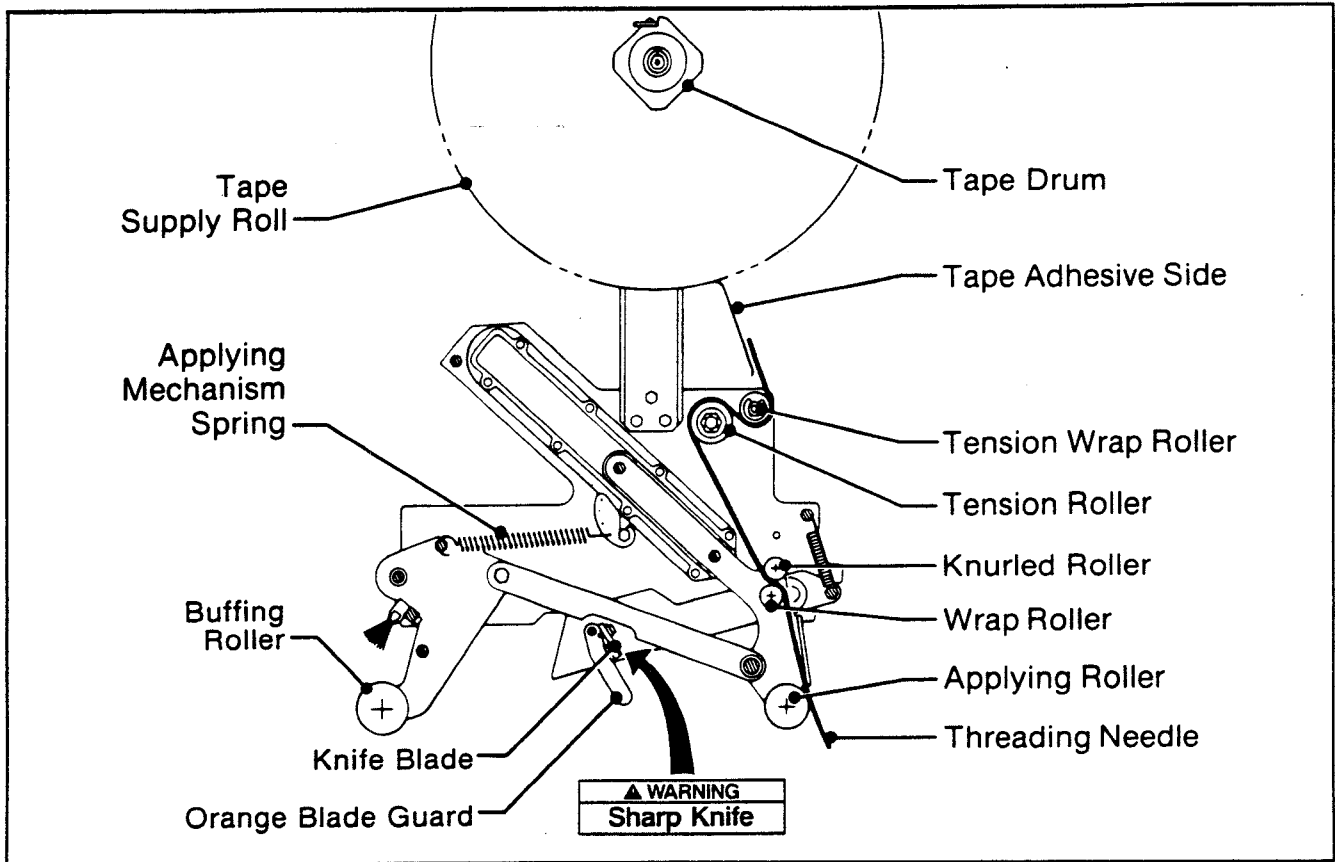

Figure 3 - Tape Threading Diagram - Top Taping Head - Left Side View
1. BOTH THE TOP AND BOTTOM TAPING HEADS UTILIZE EXTREMELY SHARP KNIFE BLADES ON THE ORANGE CUTTER LEVER ASSEMBLY AND WHICH ARE LOCATED UNDER THE BLADE GUARD WHICH HAS THE "WARNING - SHARP KNIFE" LABEL. BEFORE WORKING WITH THE TAPING HEADS OR ATTEMPTING TO LOAD THE TAPE, REFER TO FIGURES 3 and 3A AND IDENTIFY THE BLADE LOCATION. KEEP HANDS OUT OF THESE AREAS EXCEPT AS NECESSARY TO SERVICE THE TAPING HEADS.
2. With the temporary threading needle already in position, as shown in Figure 3, follow the tape loading procedure from Figure 3C to complete the tape threading.
The applying mechanism spring, shown in Figures 3 and 3A, controls applying and buffing roller pressure on the box and returns the mechanism to the reset position. The spring pressure is preset, as shown in Figure 9A, for normal operation but is adjustable.